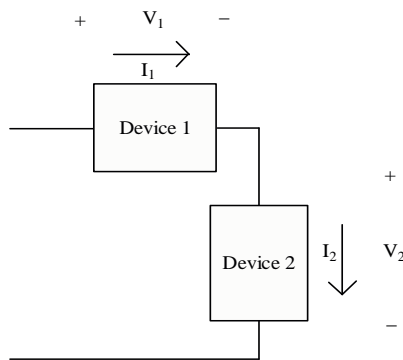
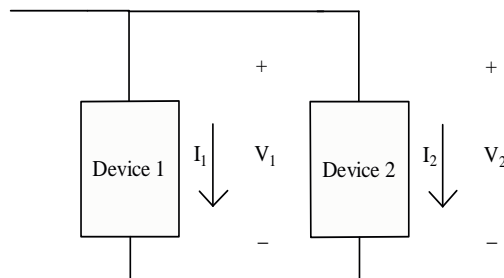

Figure 5
Figure 6
- d. Series and Parallel connection (see Figure 5 and Figure 6 respectively)